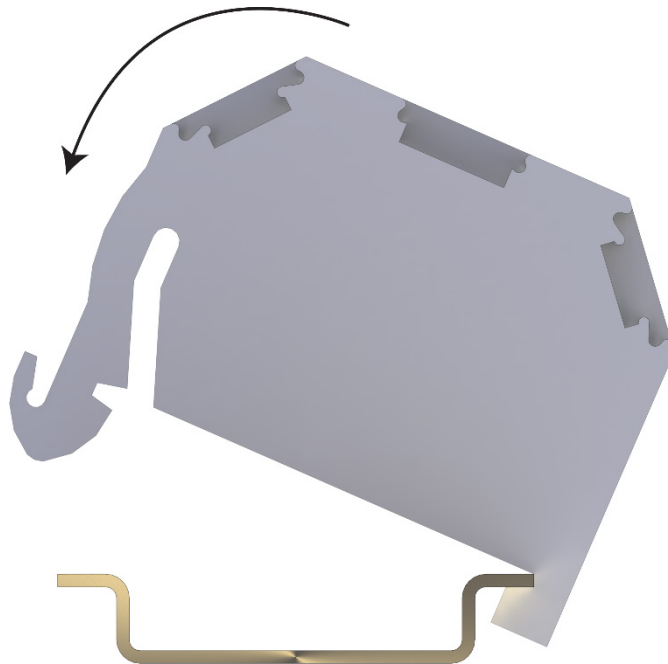
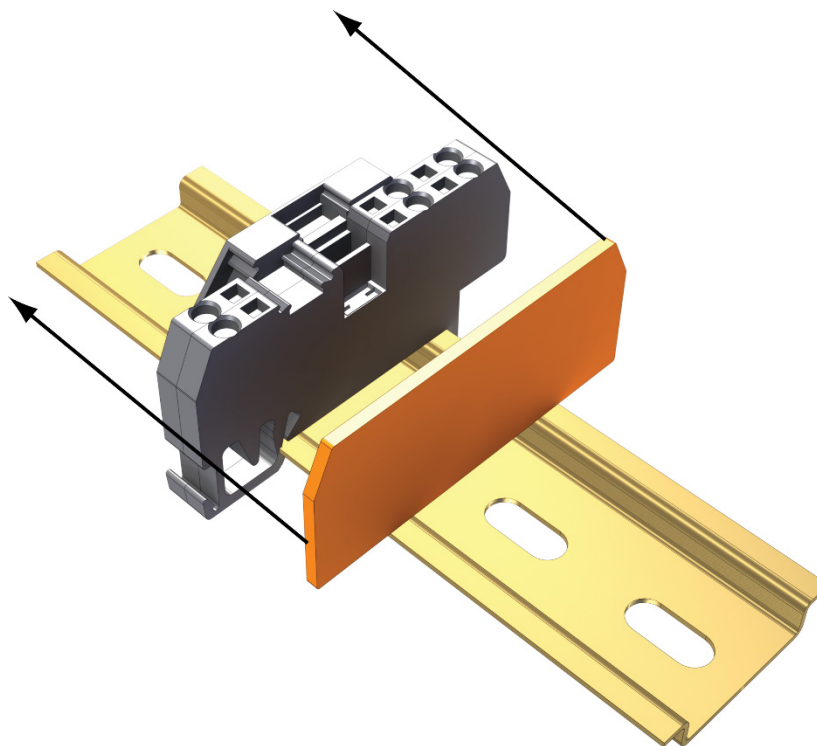

FIGURE B-1. 15908 DIN-Rail Stopper installation
FIGURE B-3. 15907 End Plate installation
1. Mount the 15908 DIN-Rail Stoppers, 15920 DIN-Rail Connectors, and 15907 End Plates onto the DIN-rail bracket (see FIGURE B-1 through FIGURE B-3).